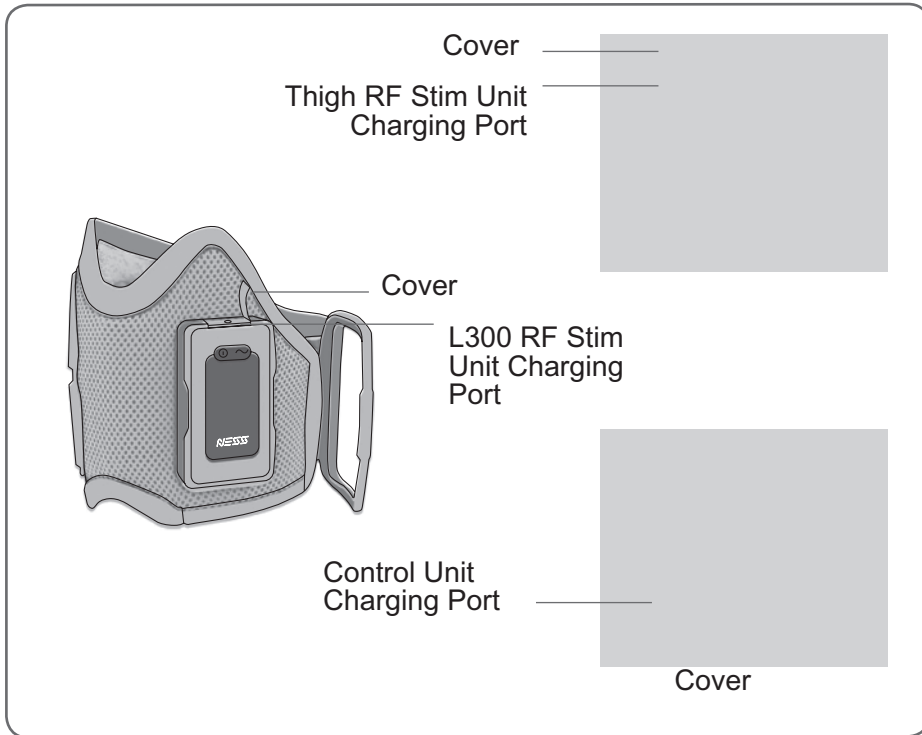

Figure 44: Charging ports: Control Unit and RF Stim Units.
1. Open the cover of the charging ports (found at the bottom of the Control Unit and at the top of the RF Stim Units). See Figure 44.